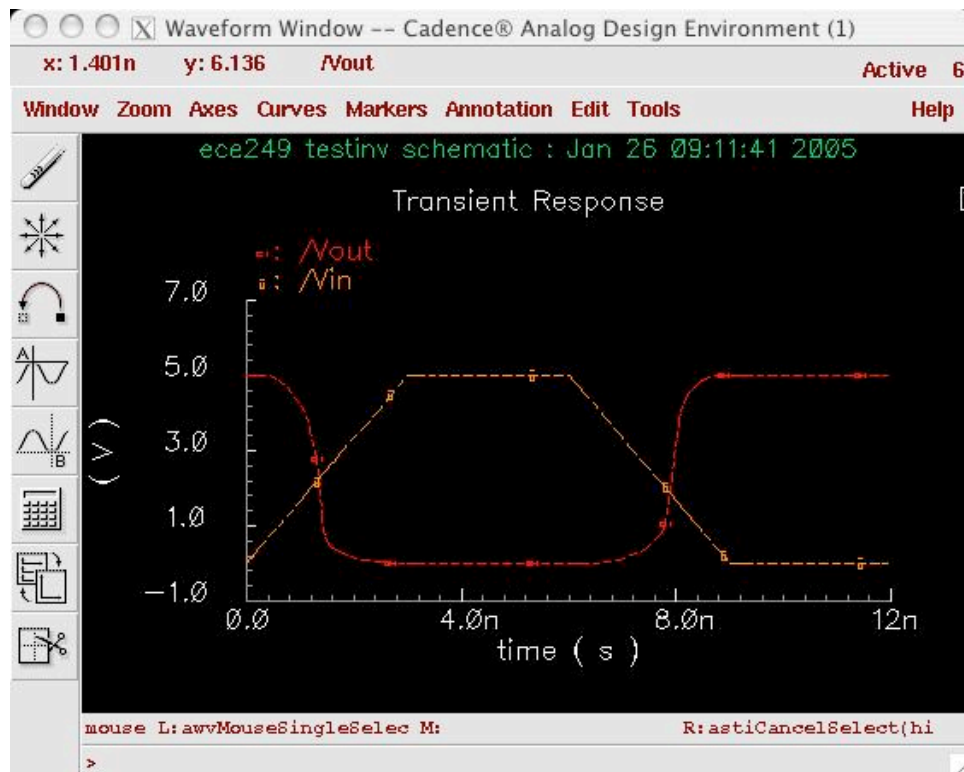

Fig. 21. testinv simulation result.
**Step 13:** In the *Analog Circuit Design Environment* window, go to *Simulation... → Netlist and Run*. The plot of the simulation should appear in a *Waveform Window*, like Fig. 21.